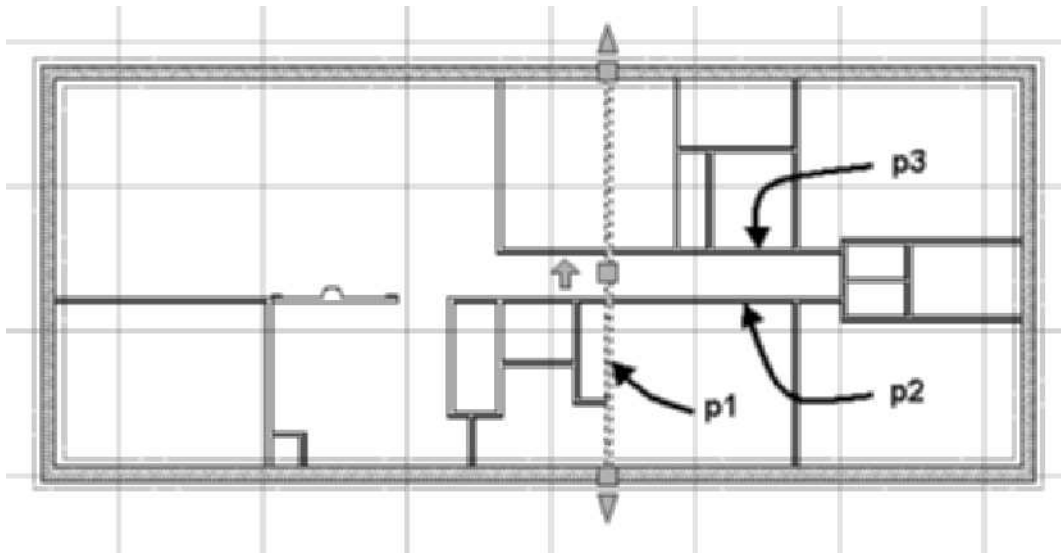

FIGURE 3.93 Selection of walls for the Trim command
24. Right-click the workspace and choose Basic Modify Tools > Trim from the shortcut menu. Select the interior wall shown in Figure 3.93.
Select objects or <select all>: 1 found (*Select wall at p1 as shown in Figure 3.93.*)
Select object to trim or shift-select to extend or: (*Select wall at p2 as shown in Figure 3.93.*)
Select object to trim or shift-select to extend or: (*Select wall at p3 as shown in Figure 3.93.*) Select object to trim or shift-select to extend or: (*Press ESC to end the command.*)